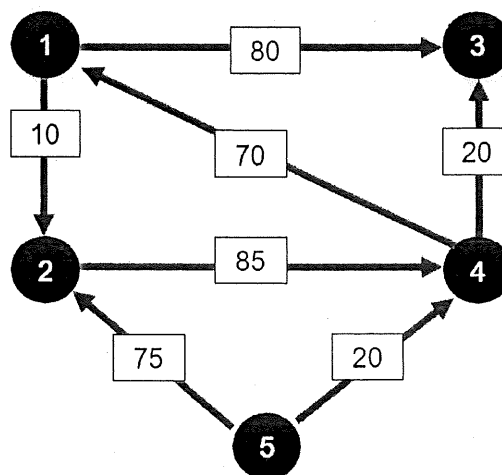

Figure 3: GT Cell for Five (5) Machines
- b) Five machines will constitute a GT cell, as per Figure 3. By using Hollier Method, calculate percentage of in-sequence moves, bypassing moves and backtracking moves.